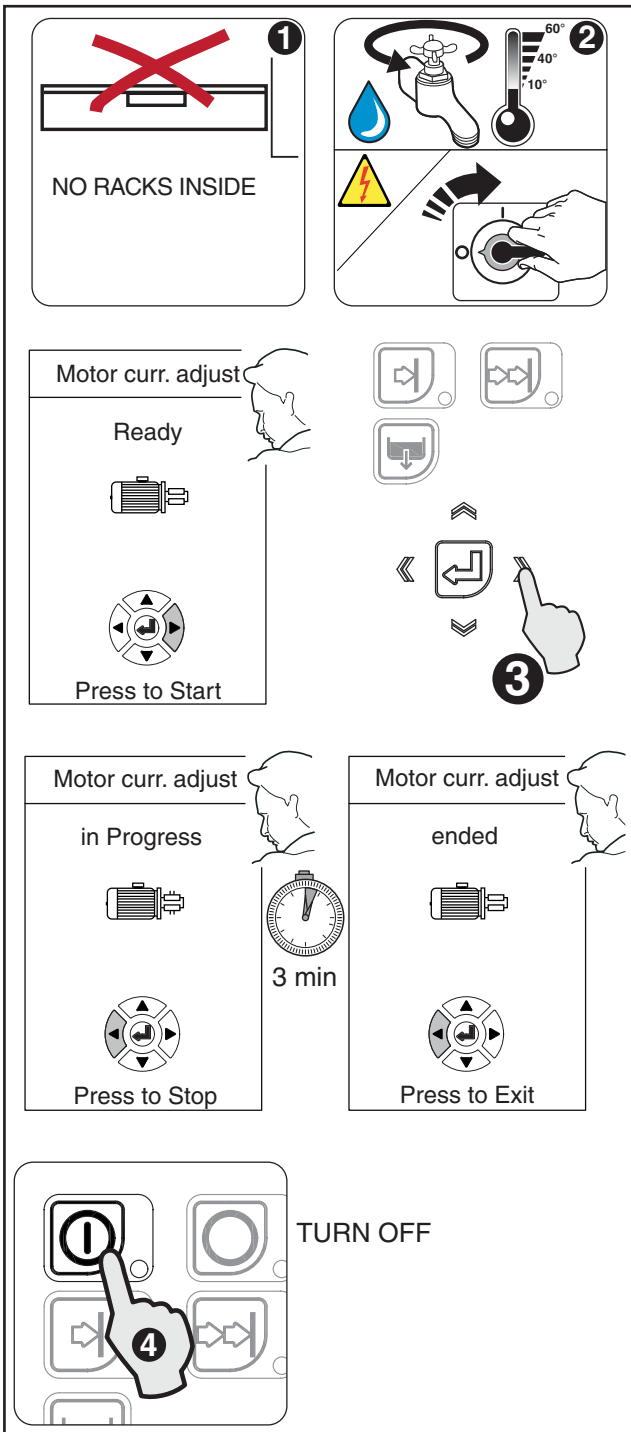

Figure 30 Motor current adjust
- Not insert racks inside the machine (point “1” - Figure 30).
- Open the water supply valves and switch on the main circuit breaker to allow power to the unit (point “2” - Figure 30).
- The display shows the frame “Motor current adjust - Ready Figure 30).
- Press the right button (point “3” - Figure 30).
- The display shows the frame “Motor current adjust - In progress Figure 30), in 3 minutes the Motor current adjust procedure should end.
- Press the On/ Off (point “3” - Figure 30). The machine is turning off.